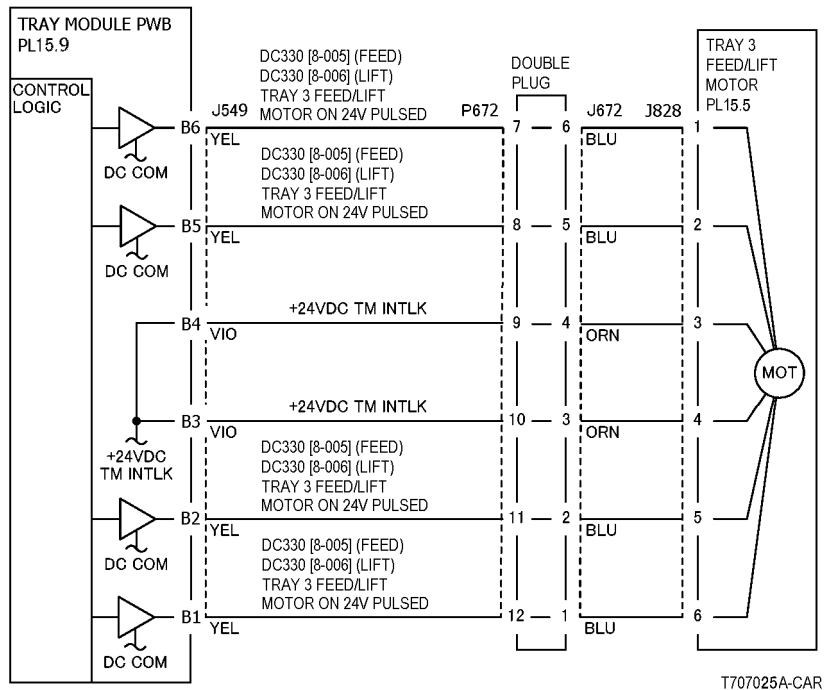

Figure 2 7-117 RAP Circuit Diagram - Tray 3 Feed/Lift Motor (3TM)
- Ensure that the connectors shown in the circuit diagrams (Figure 1, Figure 2, Figure 3) are securely connected and that the wires are not damaged.
Press **Stop**. Check the circuit of the Tray 4 Feed/Lift Motor (Figure 2). Check the wires from the Tray Module PWB to the Tray 4 Feed/Lift Motor for an open circuit. If the wires are good, replace the Tray 4 Feed/Lift Motor (PL 16.11). If the problem still exists, replace the Tray Module PWB (PL 16.15).